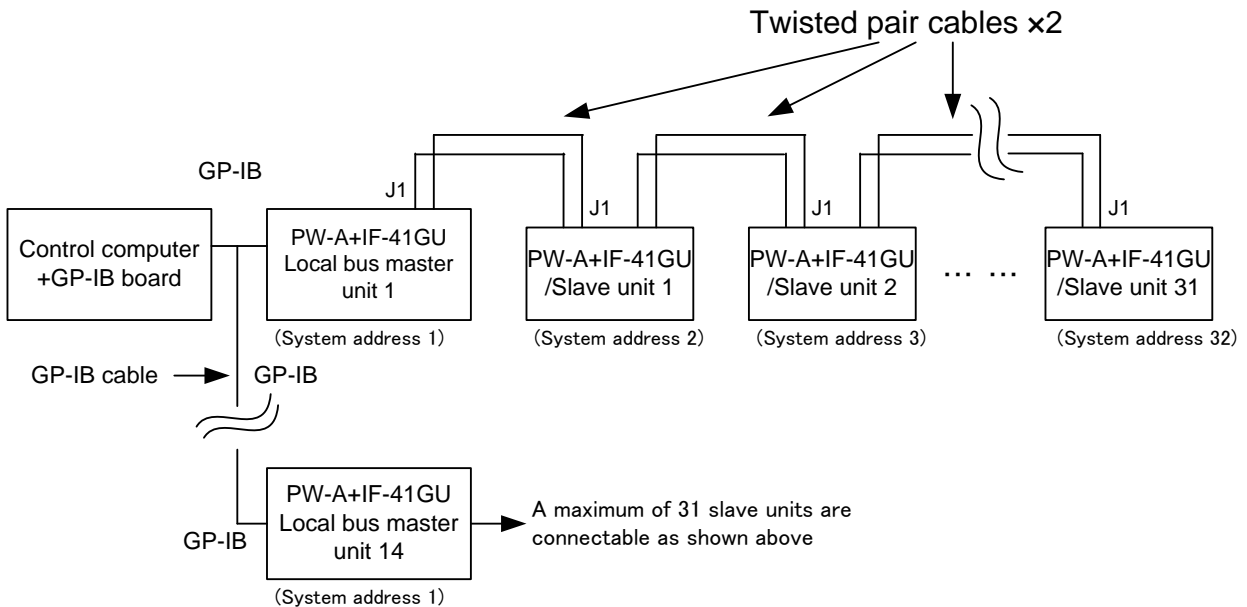

Fig.25 Remote Control through GP-IB using IF-41GU
- It is possible to connect a maximum of 14 local bus master units directly with a computer using GP-IB cables. It is possible to connect a maximum of 31 slave units with each local bus master unit connected directly with the computer using two twisted pair wires. Fig.25 shows the connection diagram.